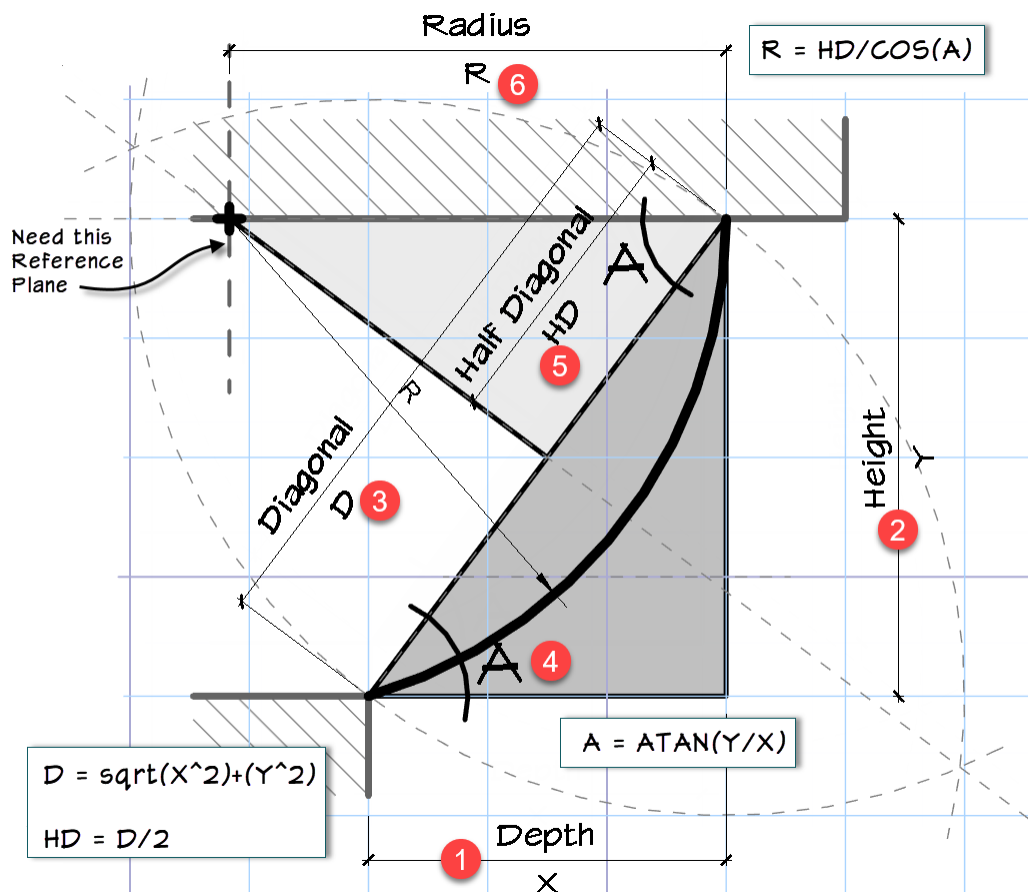

Figure 23—Using trigonometry to locate the required reference planes
In this example, we will turn to trigonometry for our solution. Depending on the complexity of the profile you are creating, the trig might be simple or complex. In this case, we have a simple case of similar triangles (shaded in gray in Figure 23). You will be asking your user to input the desired height and depth of the molding. We will call these **x** and **y** in the profile family (items 1 and 2 in the figure). When you make a triangle from **x** and **y**, you can easily derive the hypotenuse which we will call: **D** (for Diagonal—item 3). Using trigonometry, and these values, we can easily derive one of the angles of the triangle which we will call: **A**. Since we know all three sides, we have lots of options to choose from. For this example, I went with the **ATAN** function performed on **x** and **y**: **ATAN(Y/X)** to arrive at: **A** (item 4). This new angle, coupled with half of **D** (we'll call this: **HD**) (item 5) can be applied to the second (similar) triangle. Finally, with this information, the **COS** function will give us the length of hypotenuse of the smaller similar triangle, which also happens to be the radius: **HD / COS(A)** (item 6).